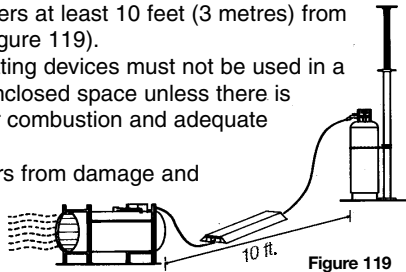

Figure 119
- Secure cylinders at least 10 feet (3 metres) from the heater (Figure 119).